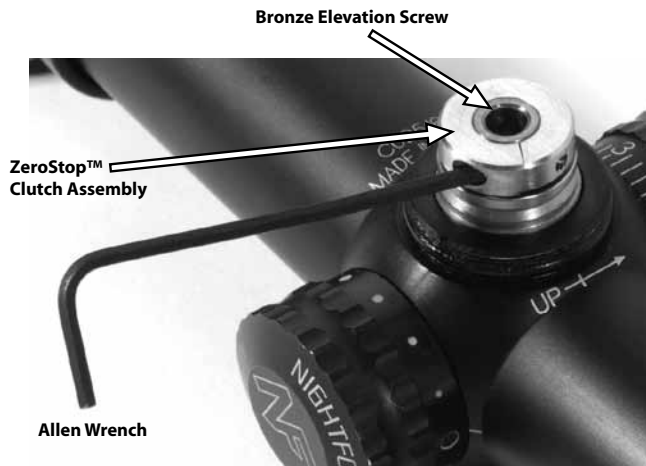
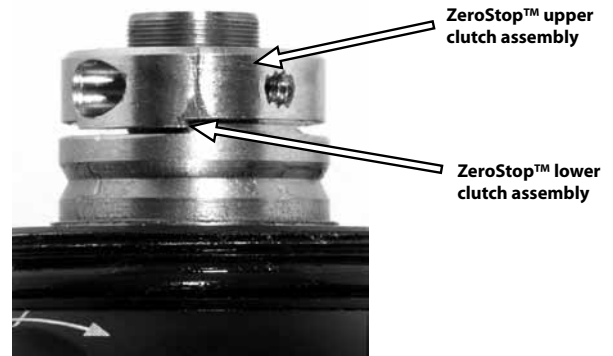

Figure 4
Figure 5
2. Loosen the setscrew on the elevation **ZeroStop™** clutch assembly 1½ turns and reinstall the elevation turret, leaving the **ZeroStop™** clutch assembly set screw loose. Tighten the elevation turret set screw to 5 inch pounds. See Figure 4 and Figure 2.
- b. Loosen the **ZeroStop™** clutch assembly set screw 1 ½ turns and rotate the clutch assembly clockwise until the bronze elevation screw is flush with the top of the clutch assembly. See Figure 4.
5. Once your desired zero has been achieved, loosen the set screw on the elevation turret and remove the turret. Loosen the setscrew on the elevation **ZeroStop™** clutch assembly 1 ½ turns and turn the assembly counterclockwise until it stops against the stop shoulder. See Figure 5. You should not feel any clicks when performing this adjustment. If you do the **ZeroStop™** clutch assembly set screw is too tight. While holding the **ZeroStop™** clutch assembly against the stop shoulder in a counterclockwise direction, tighten the set screw to 5 inch pounds. See Figure 4 and 5.